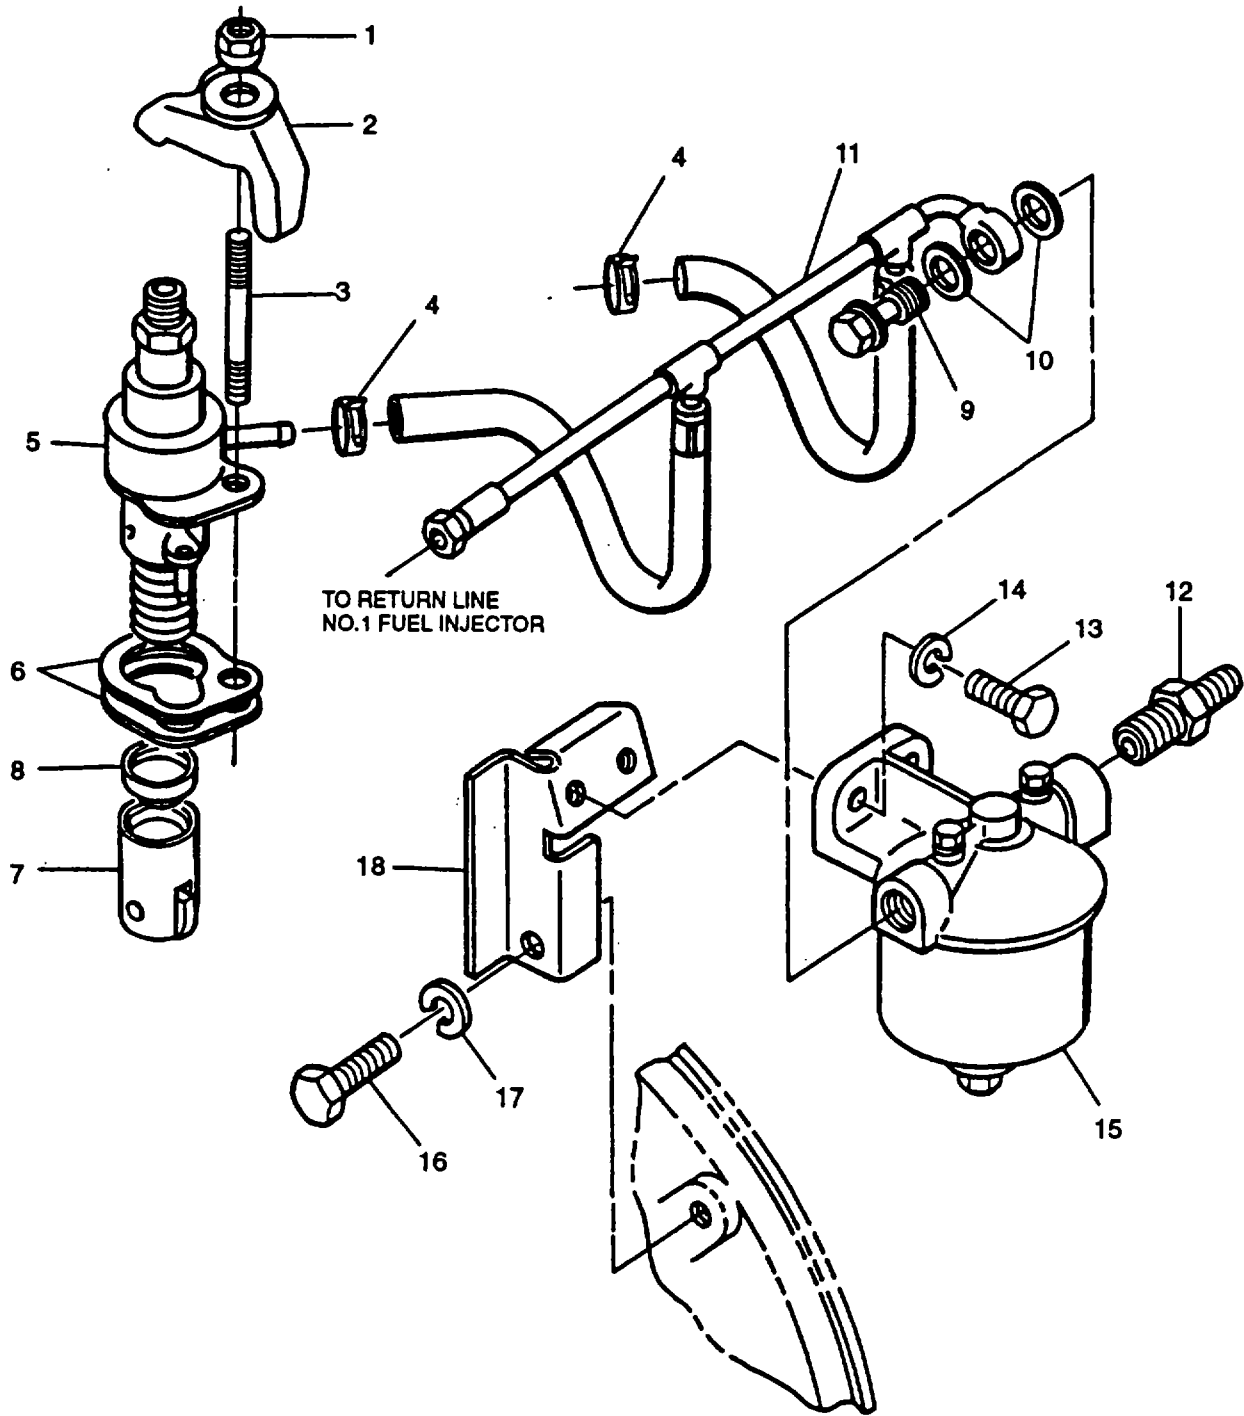
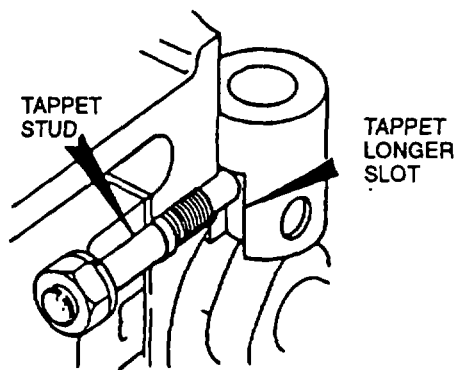

FIGURE 3-7. Fuel Injection Pump, Fuel Filter, and Supply Lines
FIGURE 3-8. Fuel Pump Tappet and Stud
- a. Loosen clamp (4, FIGURE 3-7) and disconnect fuel supply line (11) from fuel injector pump (5).
- c. Remove fuel injector pipe between pump (5, FIGURE 3-7) and fuel injector, refer to paragraph 3-18.
- e. Remove nut (1) and damp (2) securing fuel injection pump (5)
- c. If tappet (7, FIGURE 3-7) and thrust cup (8) were removed, install them as follows:
- (1) Tappet is installed in crankcase using long nosed pliers held open against top inside edge of tappet recess.
- (2) Submerge tappet in clean engine lubricating oil (MIL-L-2104).
- (3) Insert tappet in crankcase with longer slot facing outward to ensure it is correctly located over tappet stud, refer to FIGURE 3-8. Install thrust cup (8, FIGURE 3-7).
- g. If removed, install stud (3, FIGURE 3-7).
- h. Install correct original shim pack (6) on fuel pump (5).
(1) Do not remove or add to original shims installed between pump flange and steel plate.
(2) Use extreme care to ensure that individual shim packs are installed between each fuel pump plate and crankcase and that they are retained with their original respective cylinder.
(3) Shims are available in three sizes and are color coded, refer to TABLE 3-3
- a. Loosen clamps (4, FIGURE 3-7) and disconnect supply hoses of fuel line (11) from fuel injection pumps (5).
- b. Disconnect fuel return hose from fuel supply line (11).
- c. Remove swivel union plug (9) securing fuel line (11) to fuel filter (15); remove fuel line (11) and two seals (10). Discard seals (10)
- b. Connect fuel line (11. FIGURE 3-7) to fuel filter (15) using two new seals (10) and swivel union plug (9).
- c. Connect supply line (11) hoses to fuel injection pumps (5) and secure with clamps (4).
- d. Connect fuel return line to supply line (11).